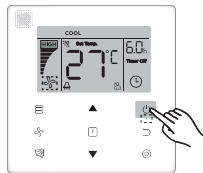

Figure 6.1
- 1) Press (ON/OFF) button, and the Operating Indicator " " on the wired controller will light up, while the ON/OFF icon " " of the indoor unit on the display will spin to indicate that the indoor unit has started running. (see Figure 6.1)